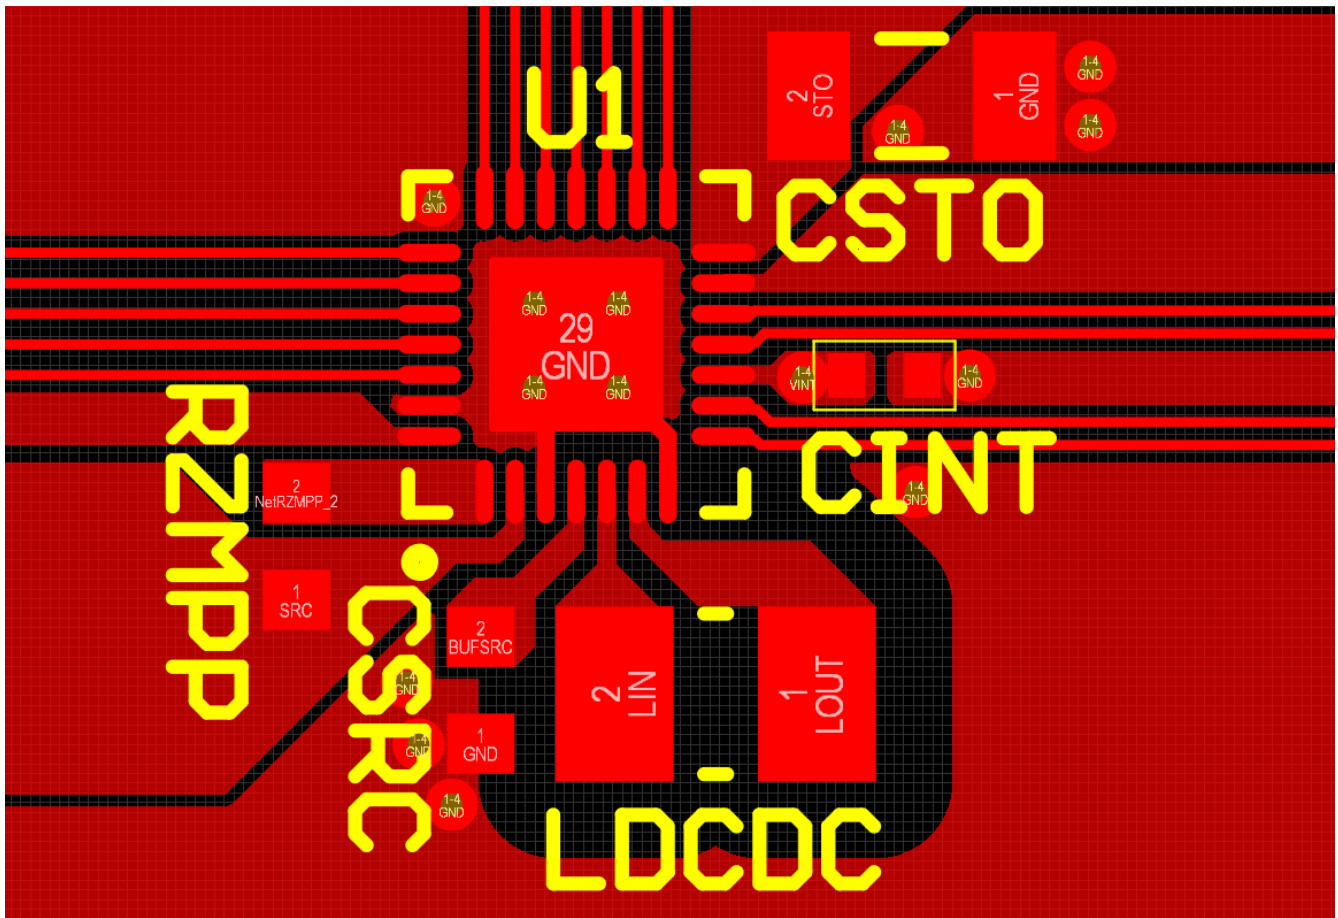

Figure 16: Layout Example for the AEM30300 and its Passive Components
- The switching nodes (**LIN** and **LOUT**) must be kept as short as possible, with minimal track resistance and minimal track capacitance. Low resistance is obtained by keeping track length as short as possible and track width as large as possible between **L_{DCDC}** and the AEM30300 pins. Minimal capacitance is obtained by keeping distance between **LIN/LOUT** and other signals. We recommend removing the ground plane, the power plane and the bottom layer ground pour under **L_{DCDC}** footprint, as well as adding distance between **LIN/LOUT** and the top ground pour, as shown on Figure 16.